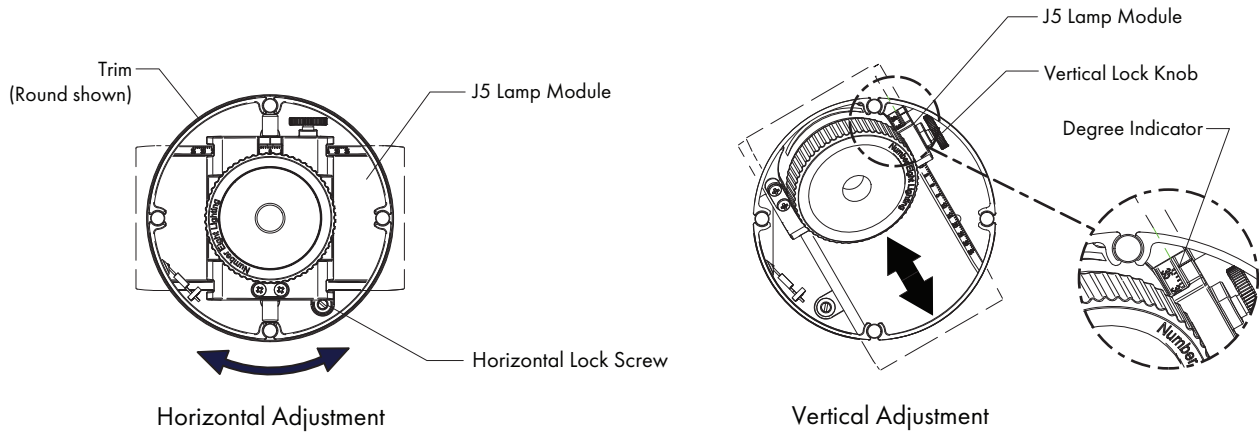
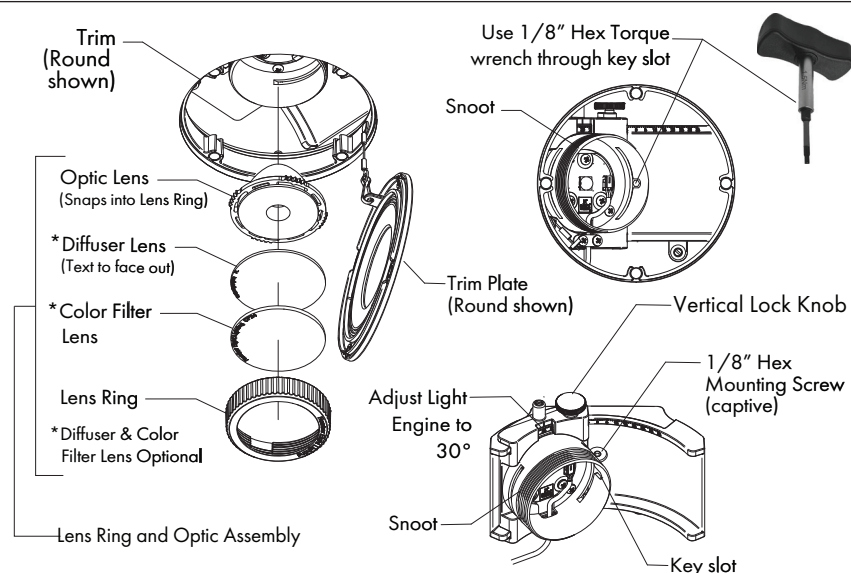

FIG 6.1 J5 Aiming Adjustment
FIG 6.2 J5 Lamp Module Mounting
STEP 2 Loosen Vertical Lock Knob and adjust J5 Lamp Module to desired vertical aiming position. Tighten Lock Knob to secure the vertical adjustment - **FIG 6.1**.
STEP 1 Remove Trim Plate. Unscrew Lens Ring and Optic Assembly and remove from Snoot. Loosen Vertical Stop Knob and adjust Lamp Module to 30° to position Key Slot over the Mounting Screw as shown - **FIG 6.2**.
STEP 2 Loosen 1/8" Hex Mounting Screw (DO NOT REMOVE) using 1/8" Hex Key through Key Slot in Snoot. Remove J5 Lamp Module through trim aperture and disconnect wire connectors - **FIG 6.2 and 6.3**.
STEP 3 Fasten Mounting Screw into threaded hole using 1/8" Hex Torque Driver set to **1.5 Nm** (DO NOT OVERTIGHTEN). For 1/8" Hex Torque Driver details, contact Number Eight Lighting Customer Service at www.8lighting.com - **FIG 6.2**.
- STEP 1 Remove Lamp Module as shown on **Page 6, FIG 6.1 and FIG 6.2.**
- STEP 7 Replace Lamp Module - See **Page 6, FIG 6.1 and FIG 6.2.**